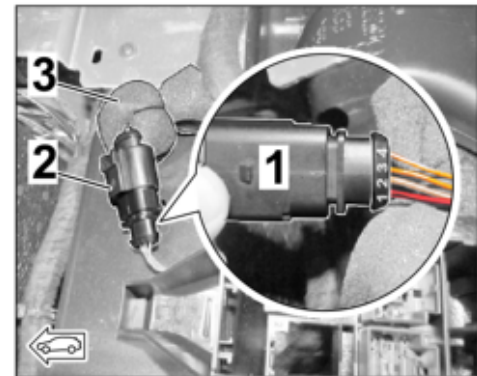

Figure 25
2.4.2 Connect the lines with pin contact and single-core seal (wire harness for engine noise) in the connector housing (4-pin, see parts list ⇒ *Figure 25 -Magnifier-*) as follows:
2.4.3 Lock connector housing (4-pin) and establish a plug connection to the connection point (⇒ *Figure 25*).